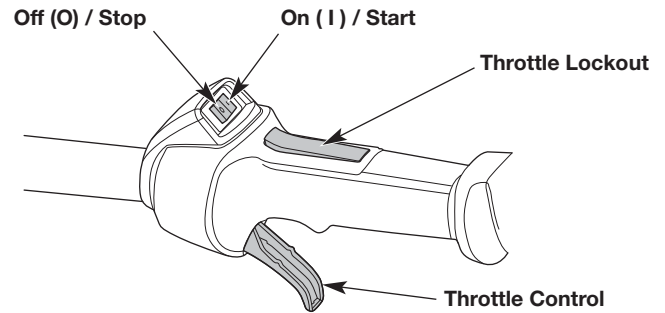

Fig. 6
- NOTE:** There is no need to turn the unit on. The On/Off switch is in the ON (I) position at all times (Fig. 6).
6. **DO NOT** squeeze the throttle control (Fig. 6). Pull the starter rope with a controlled and steady motion until the unit starts (Fig. 9).
7. Idle the engine for 5 to 10 seconds. If the unit stops during this time, press the throttle lockout, squeeze the throttle control and pull the starter rope in a controlled and steady motion until the unit starts (Fig. 6).
8. Press the throttle lockout and squeeze the throttle control (Fig. 6). Allow the engine to warm up for 30 to 60 seconds.
2. Press and hold the On/Off switch in the OFF (O) position until the engine comes to a complete stop (Fig. 6).
7. **DO NOT** squeeze the throttle control (Fig. 6). Run the electric start accessory in intervals no longer than 2 seconds each until the unit starts.
8. Idle the engine for 5 to 10 seconds. If the unit stops during this time, press the throttle lockout, squeeze the throttle control and run the electric start accessory in intervals no longer than 2 seconds each until the unit starts (Fig. 6).
10. Press the throttle lockout and squeeze the throttle control (Fig. 6). Allow the engine to warm up for 30 to 60 seconds.